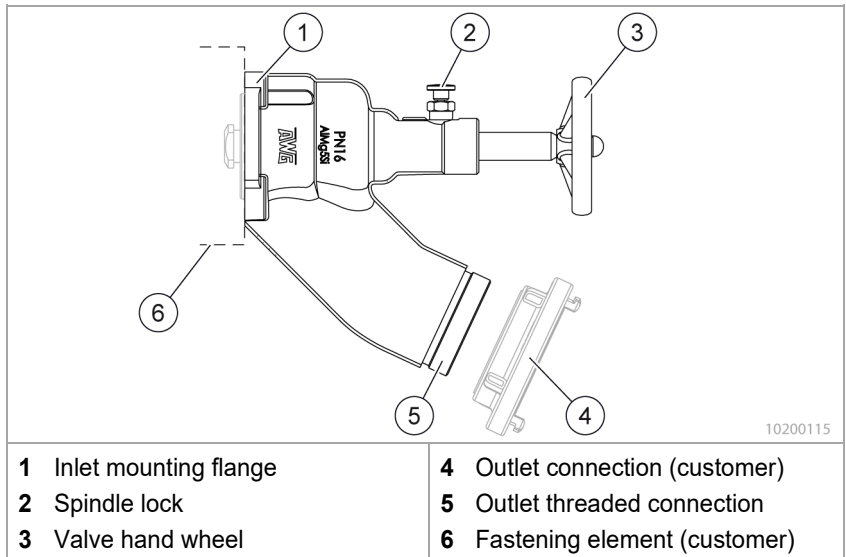

Fig. 2 Handling
The text contains a reference to an illustration with the item number in brackets: (Fig. 2/4) refers to Item 4 in Figure 2.
3. Fully open the hand wheel (Fig. 2/3) by turning it anticlockwise.
Note By releasing the spindle lock (Fig. 2/2) on the valve neck, the non-return effect is cancelled, the valve is then permanently open.
3. Fully close the hand wheel (Fig. 2/3) by turning it clockwise.